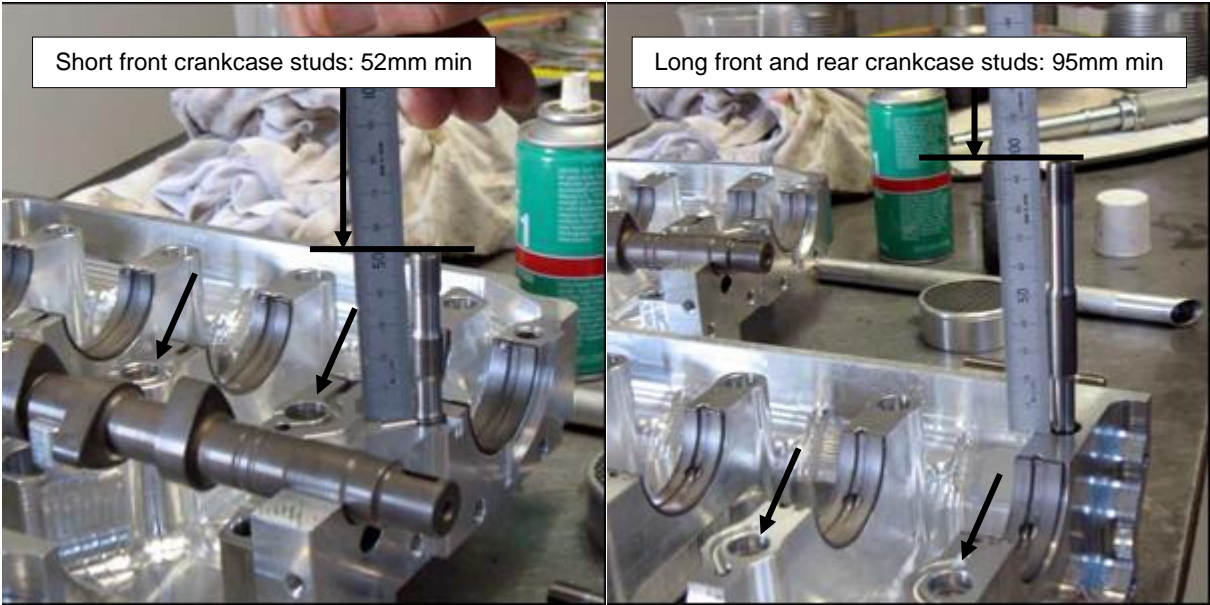

Figure 125 – Crankcase Assembly Preparation
- Lubricate and fit the O rings to the bottom main bearing stud holes (arrowed in Figure 125 - left) and then fit the front and rear crankcase studs using Loctite 263 Thread locker: clean and prime the threads first using Loctite 7471 cure accelerator. Use a collet type stud tool to screw the 2 short front crankcase studs to a free length of 52mm and the 2 long front and the 2 rear crankcase studs to a free length of 95mm as shown in Figure 125. Note: Later longer studs are positioned 54mm and 97mm free length above the crankcase join.